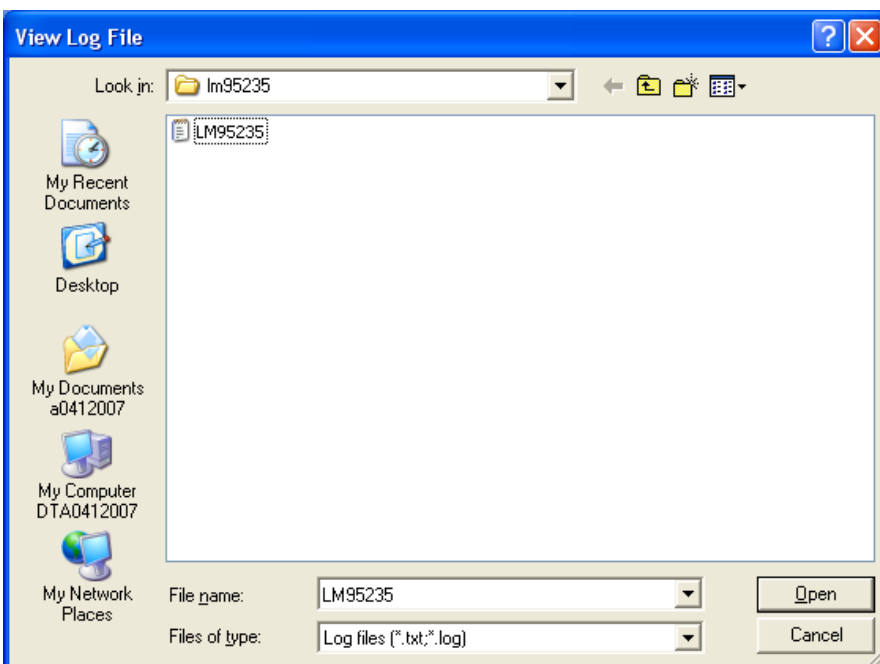

Figure 12
17. At the same time you can also press the "Start Log" button to capture temperature data in a log file. Press the "Stop Log" button to stop data logging and capture the file. Press the "File" then "View Log" in the pull down menu to see the log file as shown in Figure 12 below.